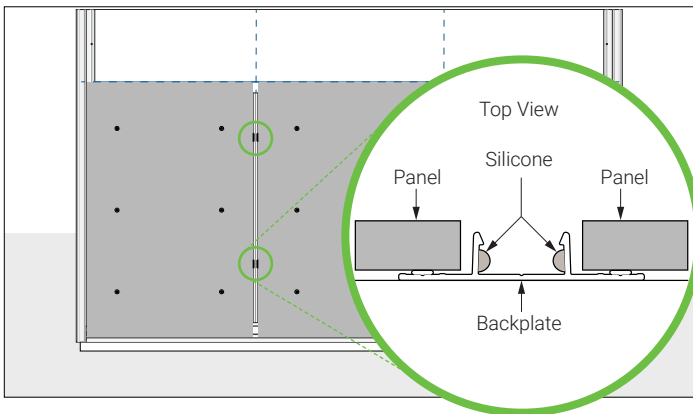

Figure 16.1
12. Install a small dot of exterior silicone into the EZ.Lock® channel of the back plate at 24" intervals (Figure 16.1). This applies to all two piece trims.